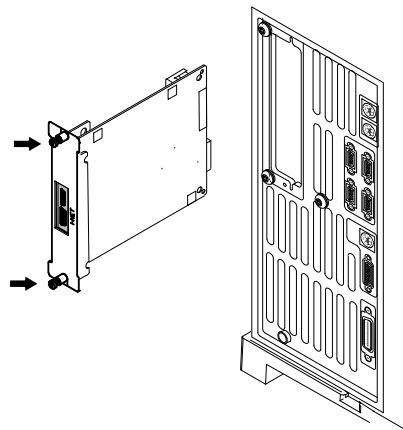

Figure 30 Removing the LAN card
- 8 If an MIO card (LAN card) is installed, loosen its two mounting screws and slide the card out of the GC (Figure 30).